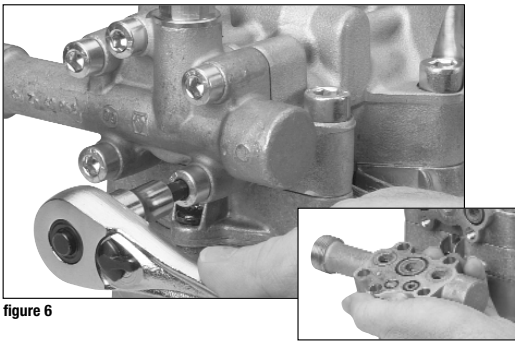

figure 6
1. Remove water inlet housing with torx TX30 bit (5 bolts). (figure 6)